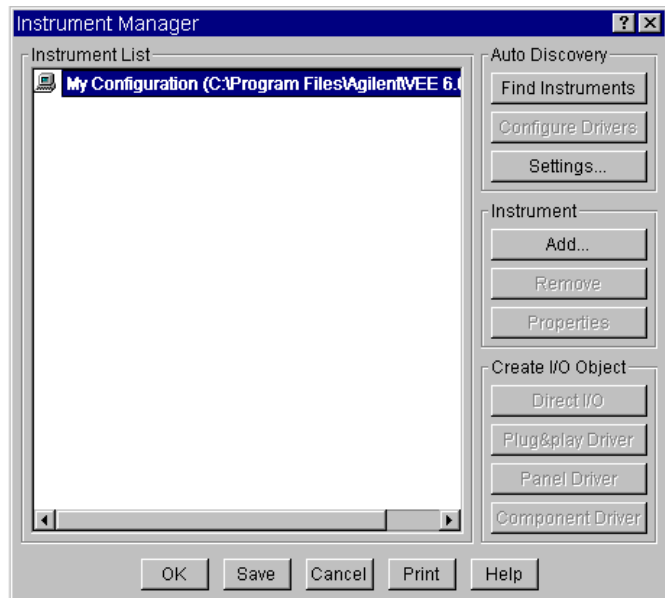

Figure 82 The Instrument Manager Box
- 1 Select I/O ⇒ Instrument Manager.... Move the dialog box to the upper-left work area by clicking and dragging its title bar, as shown in Figure 82.